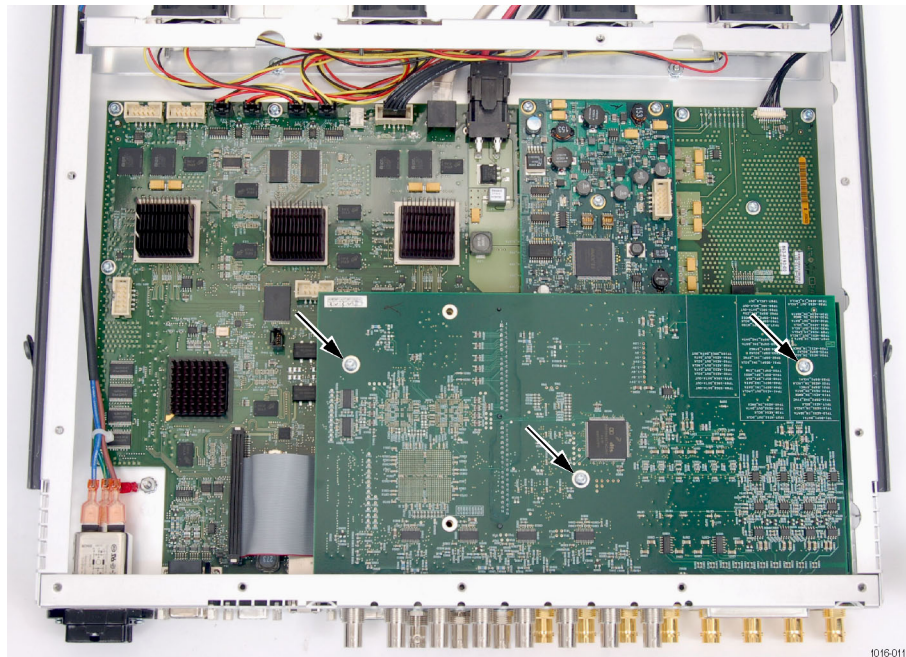

Figure 12: Audio board screws
7. Secure the audio board to the three mounting posts with the three T-15 screws from the kit. Tighten firmly, but not excessively. (See Figure 12.)